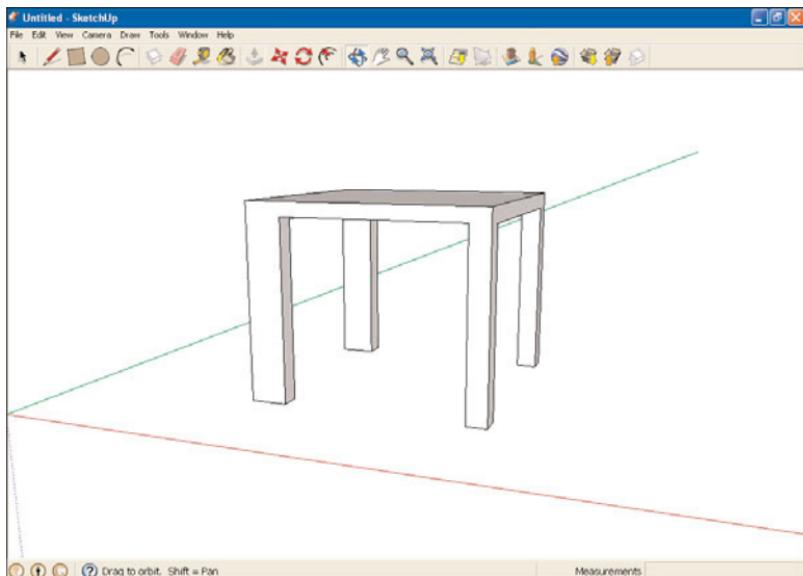

FIGURE 5.20 A 3D table.
You often draw 3D objects by subtracting elements. To show how this works, we'll draw a table like the one you see in Figure 5.20.
16. Push the rectangle through until you get a cutout in the shape of the rectangle. That creates the table in Figure 5.20.